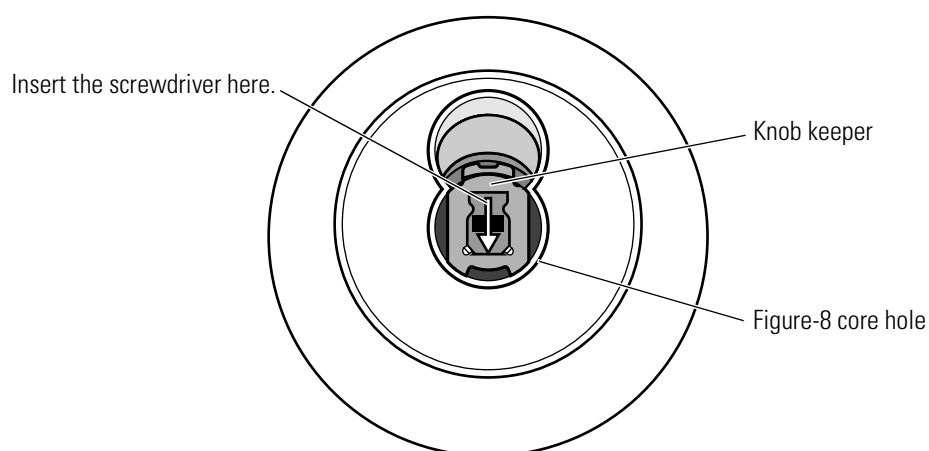

Figure 3.2 Removing the keyed knob
4. Press the screwdriver blade in the direction of the arrow, as shown in Figure 3.2.